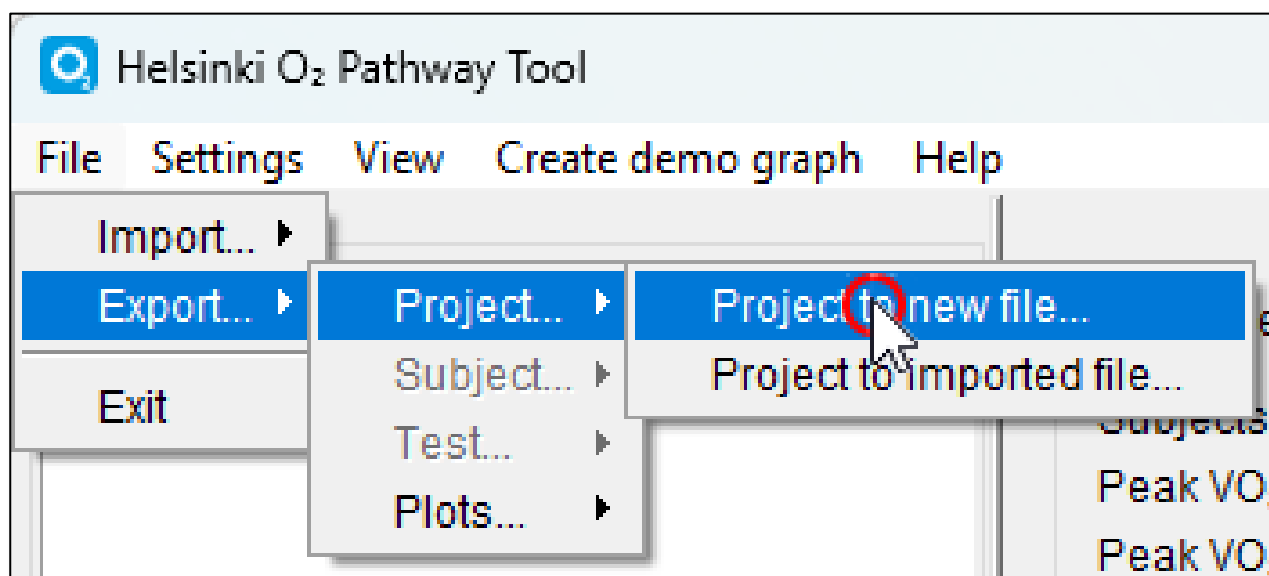

Figure 48
4. Select an exporting method from the “**File**” menu in the main menu bar (Figure 48).